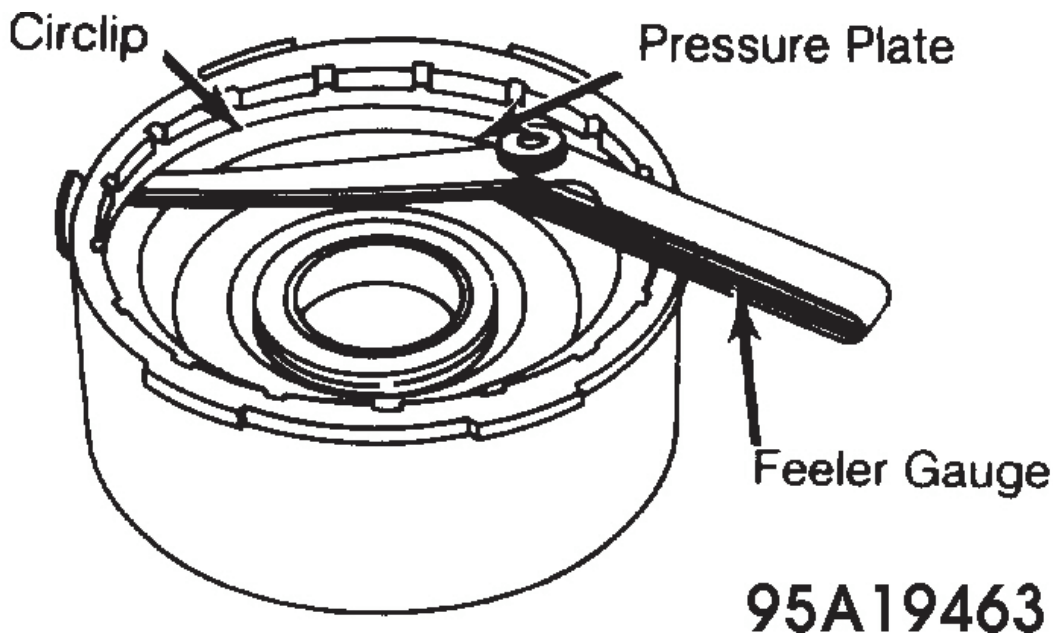

Fig. 18: Measuring Direct-Reverse Clutch Clearance
6. Using a feeler gauge, measure clearance between clutch pack retaining circlip and pressure plate. The clearance should be within .081-.098" (2.05-2.50 mm). See **Fig. 18**.